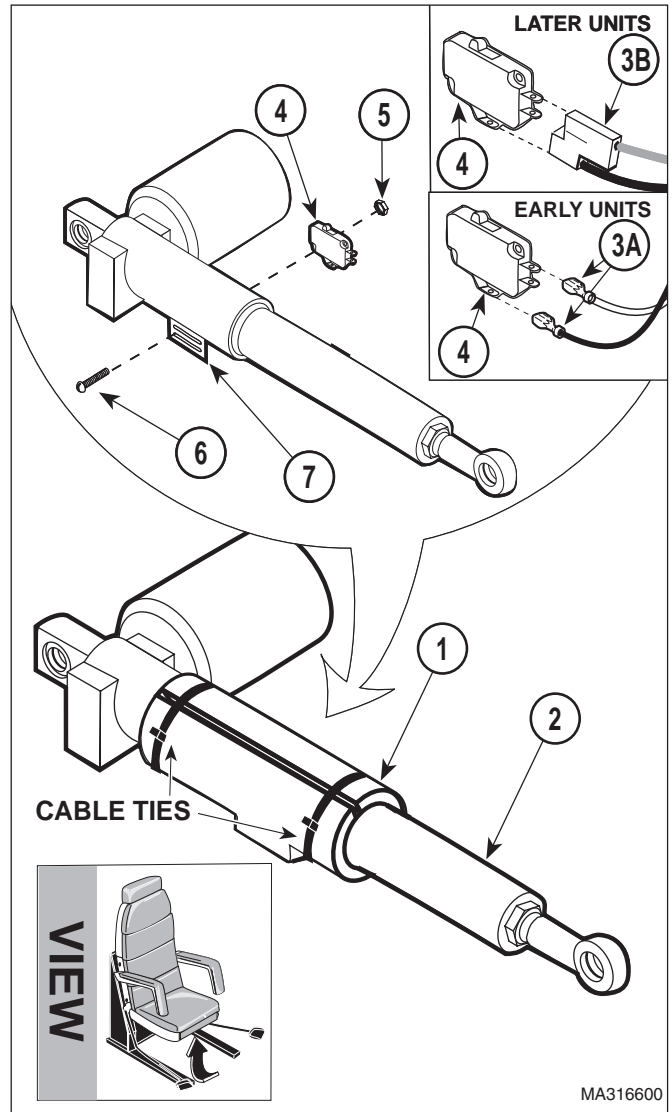

Figure 4-1. Seat Up Limit Switch Removal / Installation
- (2) Unplug chair power cord from wall outlet.
- (3) Cut two cable ties and remove actuator sleeve (1, Figure 4-1) from shaft of seat actuator (2).
- (4) On early units, tag and disconnect two wires (3A) from terminals of seat up limit switch (4). On later units, disconnect wire harness (3B) from seat up limit switch (4).
- (5) Remove two nuts (5), screws (6), and seat up limit switch (4) from switch bracket (7).